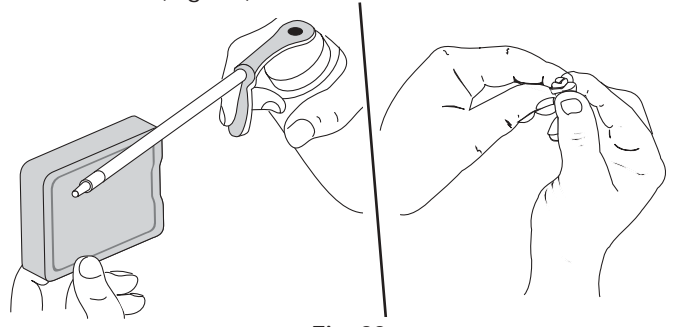

Fig. 22
4. Apply enough clean SAE 30 motor oil to lightly coat the filter (Fig. 22).
5. Squeeze the filter to spread and remove excess oil (Fig. 22).